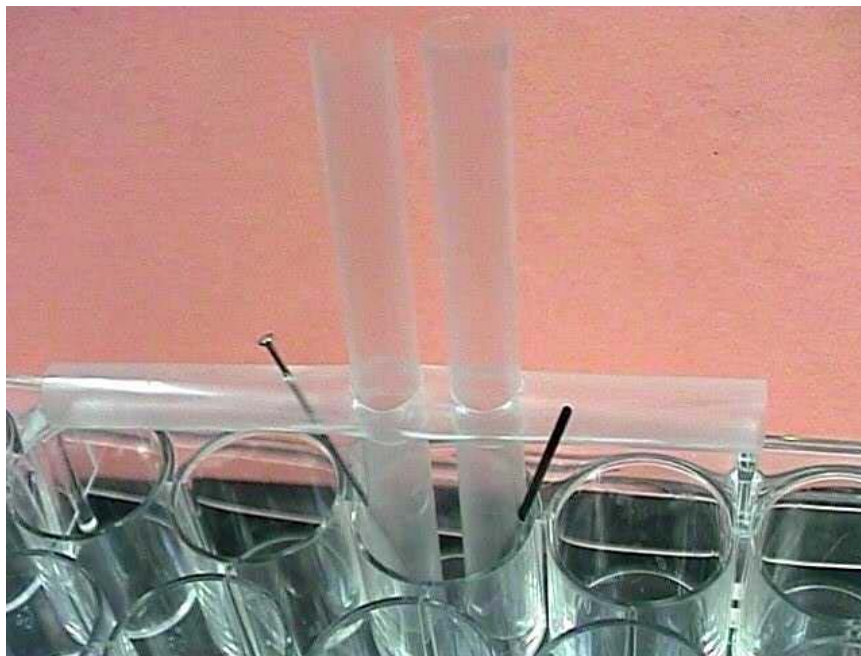

Figure 1. Set up for the production of chlorine.
4. Push the short straws through the holes in the long straw to make the set up (see Figure 1).
5. Using a pin, make a hole in the lower part of one of the short straws, so that you can insert the pencil lead into the center of the straw as shown in Figure 1.
6. Push the pin through the vertical straw and into the center of the other shorter straw as shown in Figure 1.